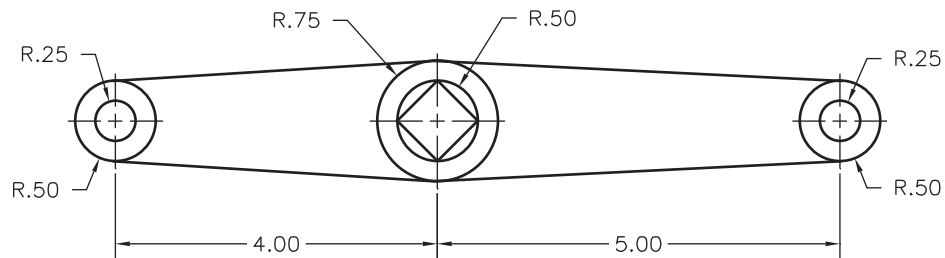

Fig. 5-21
1. Draw the ski-lift rocker arm shown in Fig. 5-21 for a design study by a gondola manufacturer. Do not include dimensions. Save your drawing as **rockerarm.dwg**.